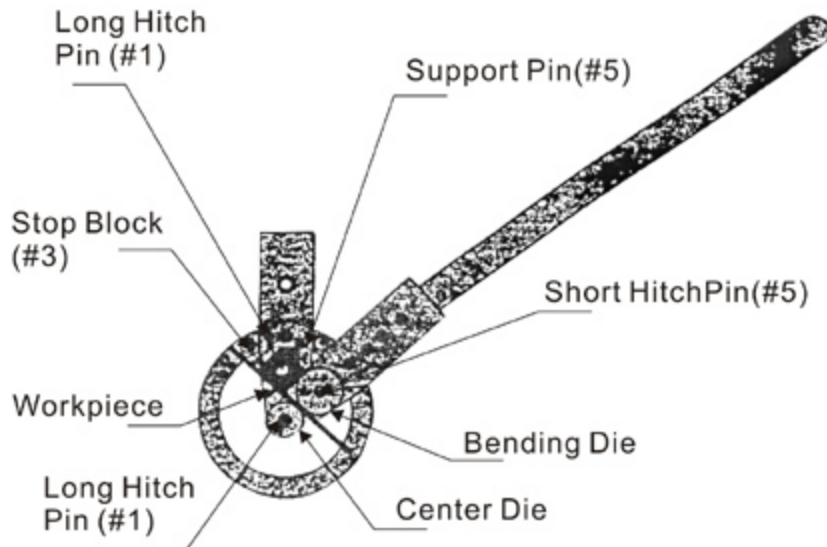

Figure3-Using Stop Block
- Step 1: The STOP BLOCK (#3) holds the workpiece in place while the selected bending DIE (#17 #23) on the HANDLE (#9) bends it around the LONG HITCH PIN (#1) or selected center DIE as shown in Figure 3. The workpiece will bend in the shape of the bending DIE around the LONG HITCH PIN (or center DIE). See Figure 3.